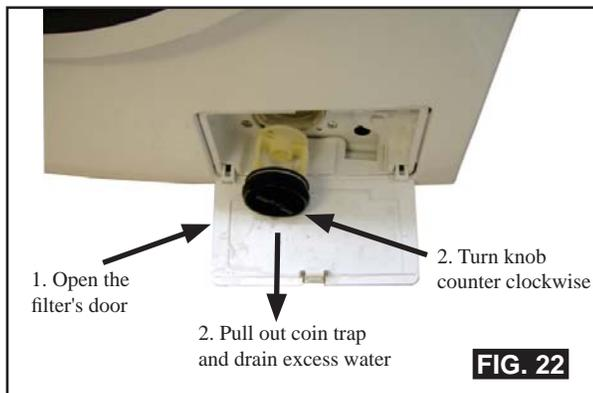

FIG. 22
5. Open the service panel. Place a container nearby to collect any spillage from cleaning (see Fig. 22).